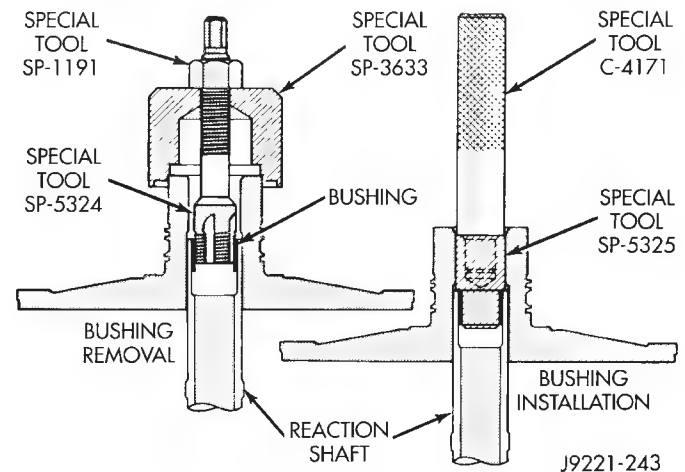

Fig. 56 Replacing Reaction Shaft Support Bushing ASSEMBLING OIL PUMP AND REACTION SHAFT SUPPORT
(1) Assemble Bushing Remover Tools SP-1191, 3633 and 5324 (Fig. 56). **Do not clamp any part of reaction shaft or support in vise.**
(2) Hold Cup Tool SP-3633 firmly against reaction shaft and thread remover SP-5324 into bushing as far as possible by hand. Then thread remover tool 3-4 additional turns into bushing with a wrench.
(3) Turn remover tool hex nut down against remover cup to pull bushing from shaft. Clean all chips from shaft after bushing removal.
(4) Lightly grip old bushing in vise or with pliers and back remover tool out of bushing.
(5) Assemble Bushing Installer Tools C-4171 and SP-5325 (Fig. 56).
(6) Slide new bushing onto Installer Tool SP-5325.
(7) Position reaction shaft support upright on a clean smooth surface.
(8) Align bushing in bore. Then tap bushing into place until Bushing Installer SP-5325 bottoms.
(9) Clean reaction shaft support thoroughly after installing bushing.